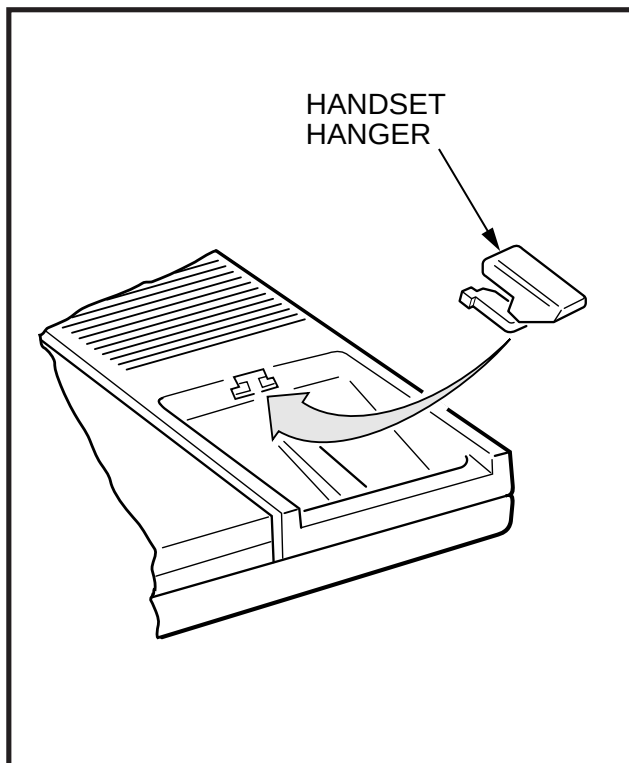

FIGURE 7-2
- 2) Using a suitable cutter, remove the handset hanger from the base (Figure 7-1). Insert the handset hanger in the slot provided on the front of the telephone (Figure 7-2). The hanger fits in the notch on the handset.